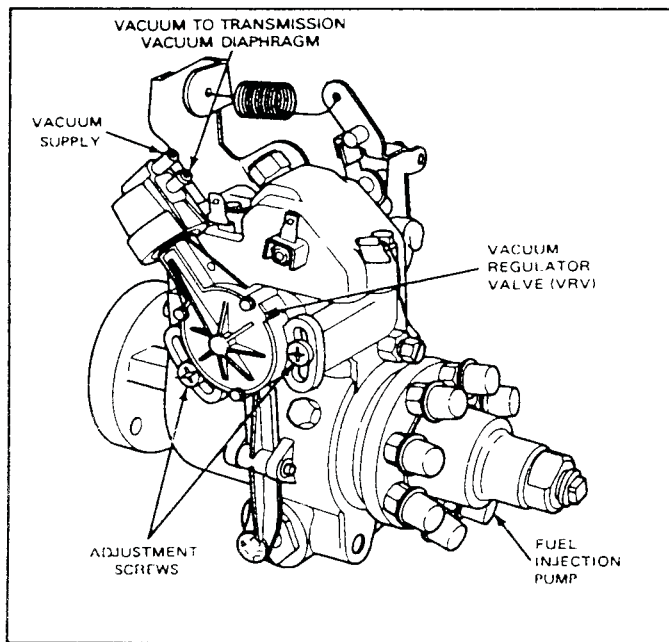

FIG. 4 Vacuum Regulator Valve (VRV)—E-250—E-350, F-250—F-350 with 7.3L Diesel Engine
Refer to Fig. 4
7. To adjust, loosen the two adjustment screws that attach the VRV to the fuel injection pump (Fig. 4). Rotate the VRV until the proper vacuum is obtained. Tighten the two adjusting screws to 8-10.5 N·m (75-90 in-lbs) when the proper vacuum reading is obtained. If the VRV can not be adjusted to obtain the proper vacuum, replace the VRV and repeat procedure from Step 3.